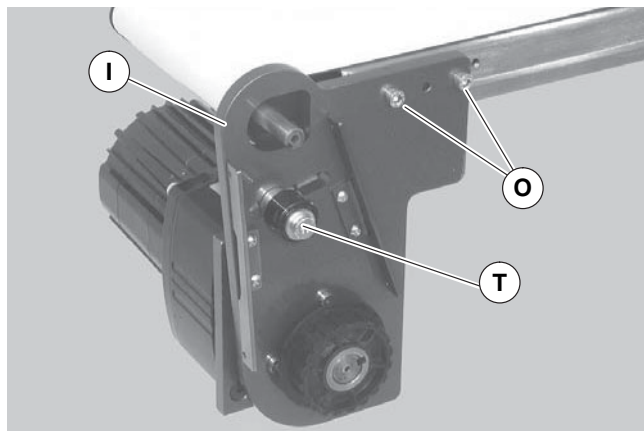
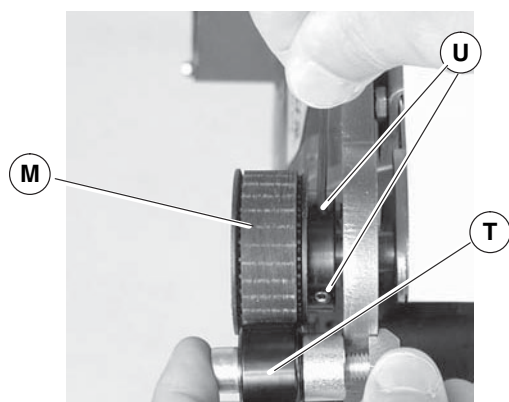

Figure 10
Figure 12
4. Attach mounting assembly (Figure 10, item I) with screws (O). Tighten to 80 in-lb (9 Nm).
6. Wrap timing belt (P) around driven pulley (M) and drive pulley (J). Install driven pulley (M) onto conveyor shaft.
7. Remove cam bearing and spacer (Figure 10, item T). Place the cam bearing and spacer (Figure 12, item T) next to the driven pulley (M). Ensure the flanges of the driven pulley are aligned with the cam bearing. Tighten driven pulley set screws (U). This will allow for proper belt alignment while conveyor is in use. Replace cam bearing and spacer (T).